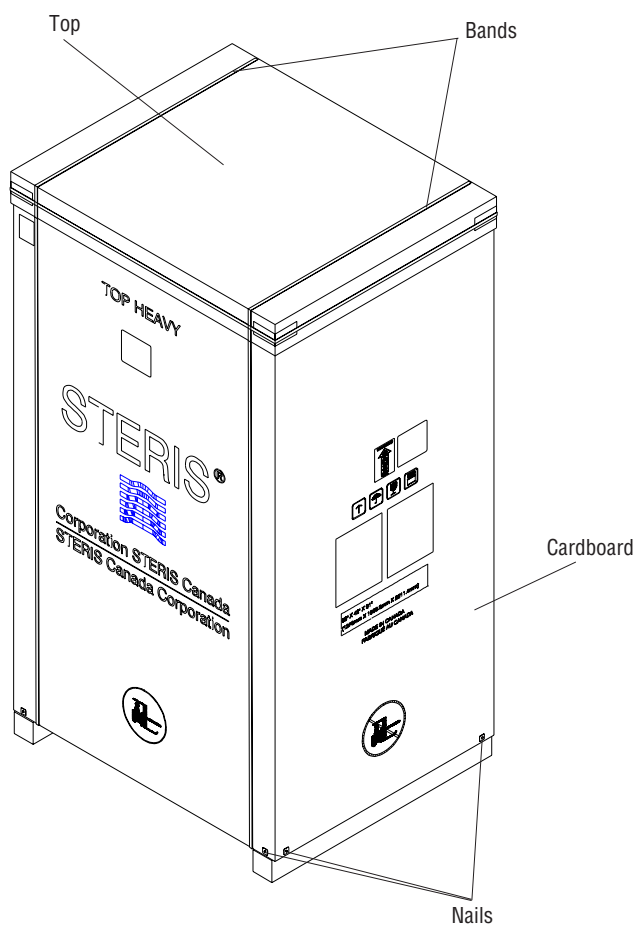

Figure 2-1. Crate
2. Carefully cut and remove bands from crate (see Figure 2-1).